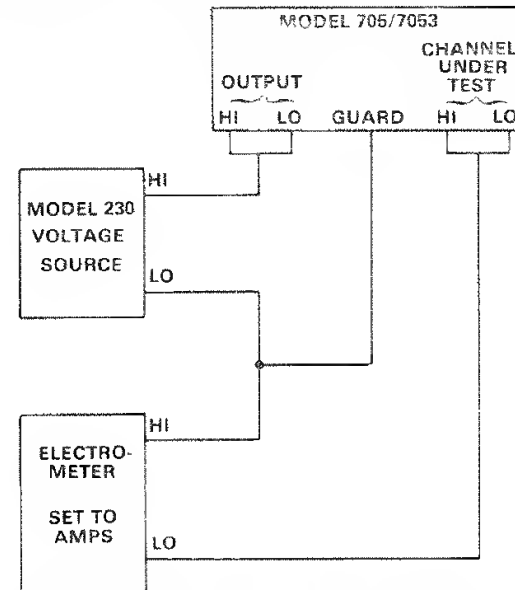

Figure 2. Model 7053 Channel Isolation Test Circuit
- This test measures the electrical isolation between channels on the Model 7053. Set up the circuit shown in Figure 2.